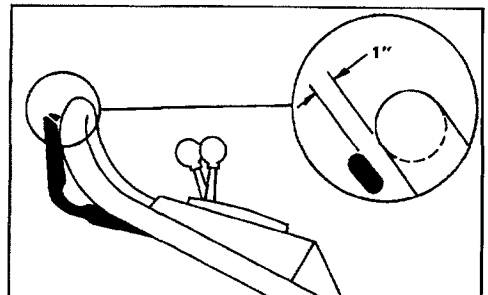

Figure 19
3. CHECK ADJUSTMENT — Slowly pull mower backward while control bar is gradually moved toward handle. Adjustment is correct when rear wheels stop turning and control bar is about 1-inch from handle (Fig. 19).